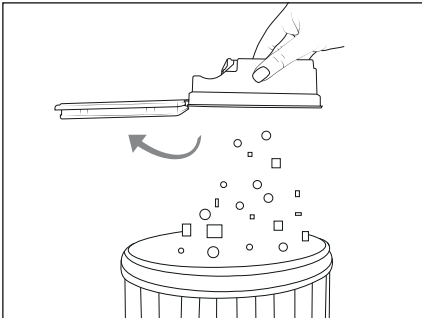

Fig. 8
- 3) Empty the contents of the dust container 12 into a waste container (see Fig. 8).